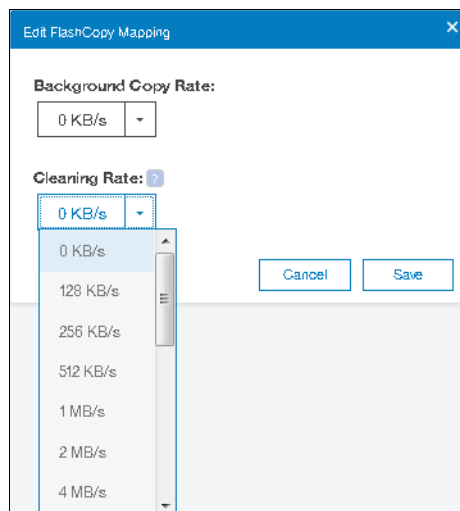

Figure 10-59 Modifying Cleaning rate
5. In the Edit Flash Copy Mapping window, you can modify the Cleaning Rate from the drop-down for the selected FlashCopy mapping as shown in Figure 10-59.